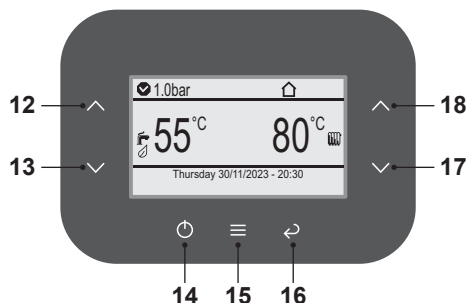

Fig. 2.6
- Press key 15 (Fig. 2.6) to access the main menu (Fig. 2.7).
- Press key 12 or 13 (Fig. 2.6) to select the desired menu (Fig. 2.8).
- Press key 15 (Fig. 2.6) to access the selected menu (Fig. 2.9).
- Press key 15 (Fig. 2.6) again to highlight the value to be changed.
- Press key 17 or 18 (Fig. 2.6) to set the desired value.
- Press key 15 (Fig. 2.6) to confirm the change or key 16 to exit without changing the value (return to previous level).